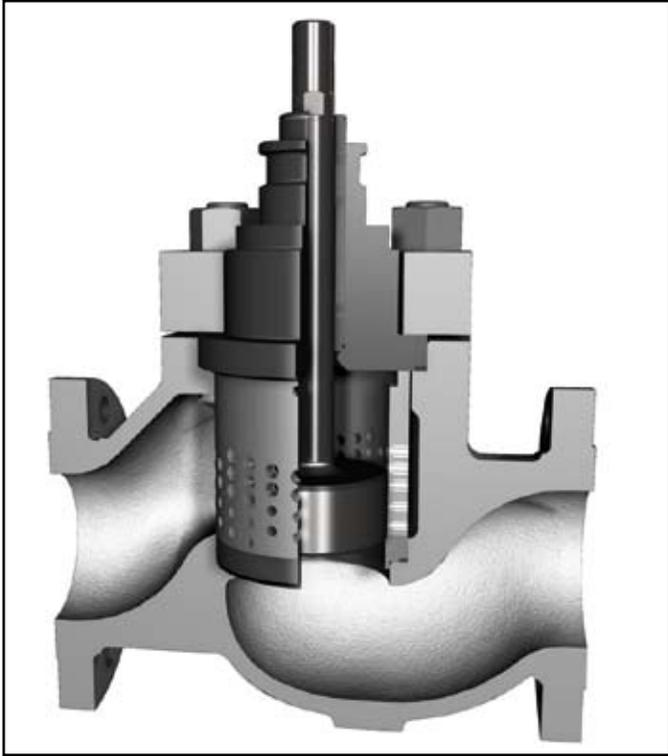

Figure 6
8.1.1. CavControl replaces the standard Mark One retainer with a drilled, stepped-hole retainer, see Figure 6. The plug and bonnet have dimensional differences from the standard Mark One design. Assembly and disassembly of the valve follows the standard procedures.